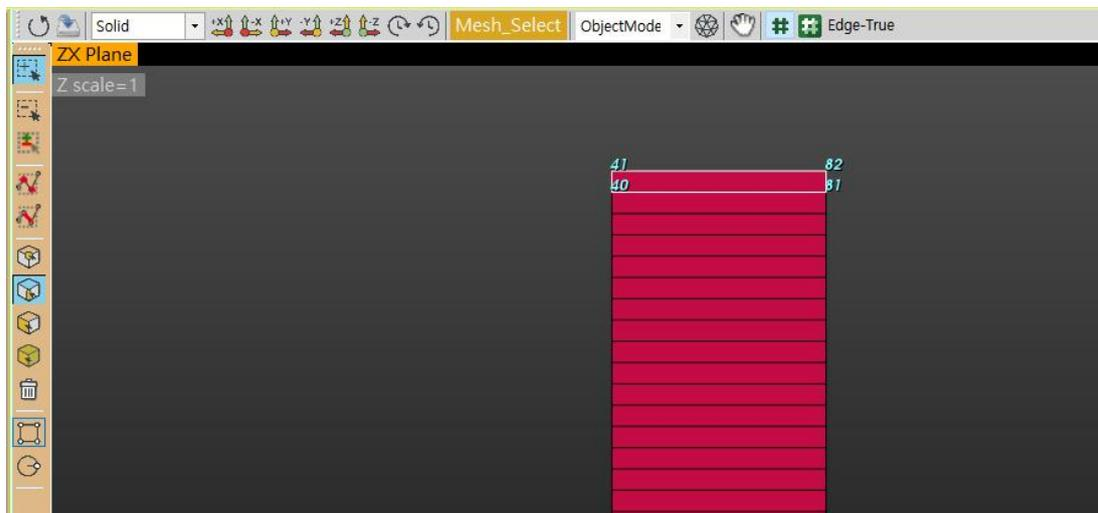
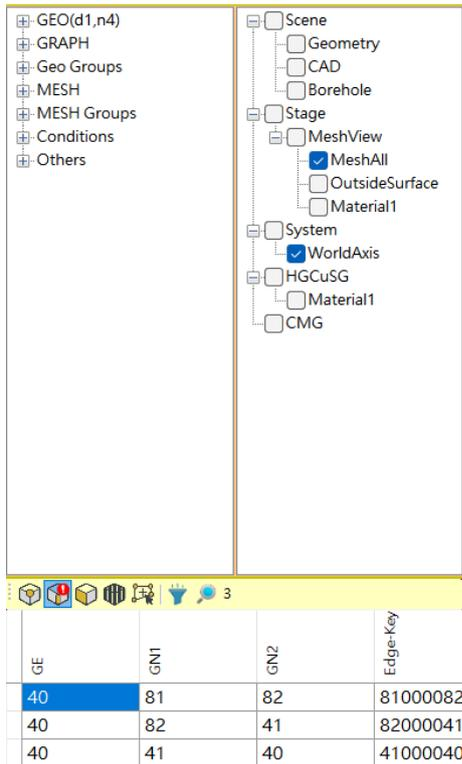

Figure 1.23. Window screen.
Figure 1.24. Panel view.
21. To select the element side located at the top of the area of interest, drag to select the top element. The window screen appears as shown in Figure 1.23.
22. To verify the selected boundary element sides, click the tool  located at the bottom of the panel as shown in Figure 1.24.
23. In the table located at the bottom of the panel view in Figure 1.24, one can observe that the boundary sides (81, 82), (82, 41), and (41, 40) are selected. As indicated in Figure 1.23, the boundary side corresponding to the top boundary side is (82, 41). Therefore, boundary sides (81, 82) and (41, 40) should be removed.